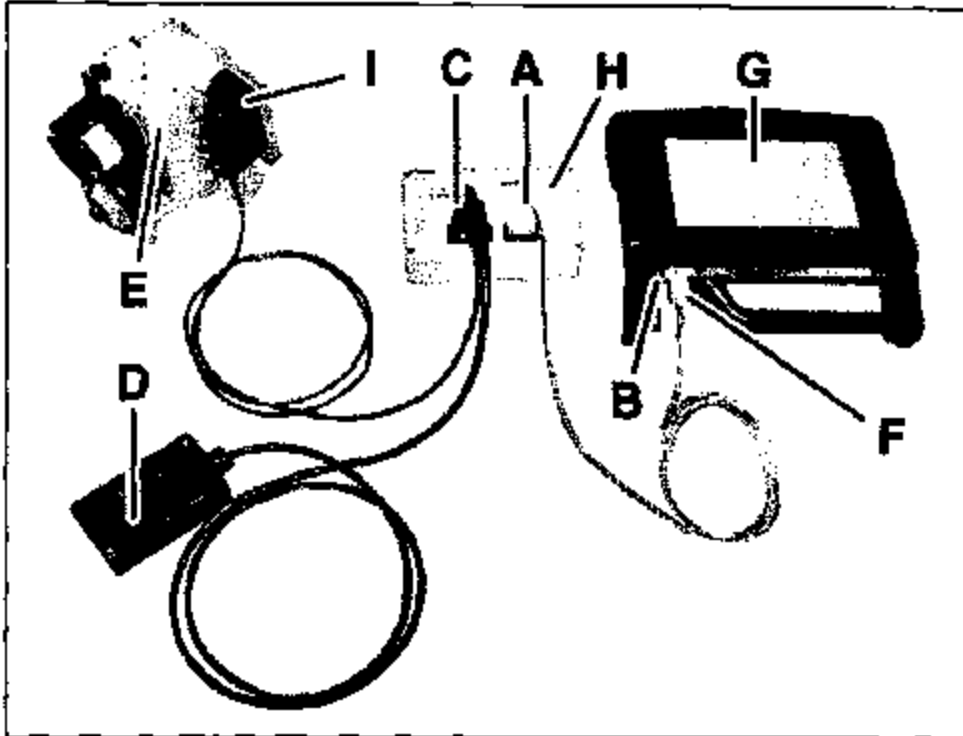

Figure 6
- Connect one end of serial cable connector (A, Figure 6) to serial port on the SBC module box (H) and secure using thumb screws.
- Connect the other end of serial cable connector (F, Figure 6) to serial interface COM1 (B) on SDS (G).